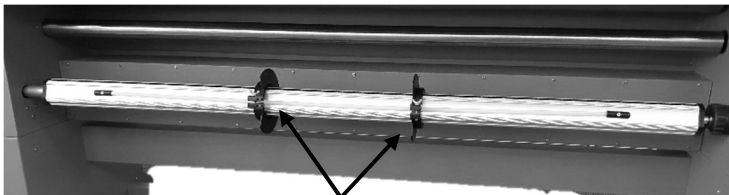

Fig. 12c
- i. *When using printed media, position one Media Alignment Disk on each side of the roll to keep edges lined up, Fig. 12c.*